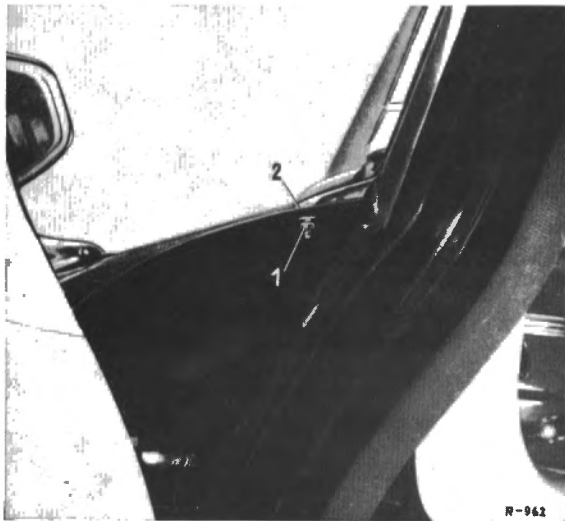

Fig. 67-1/1
1. Remove the fixing nut (1) for the garnish molding (2) at the lower left and right of the windshield (Fig. 67-1/1).